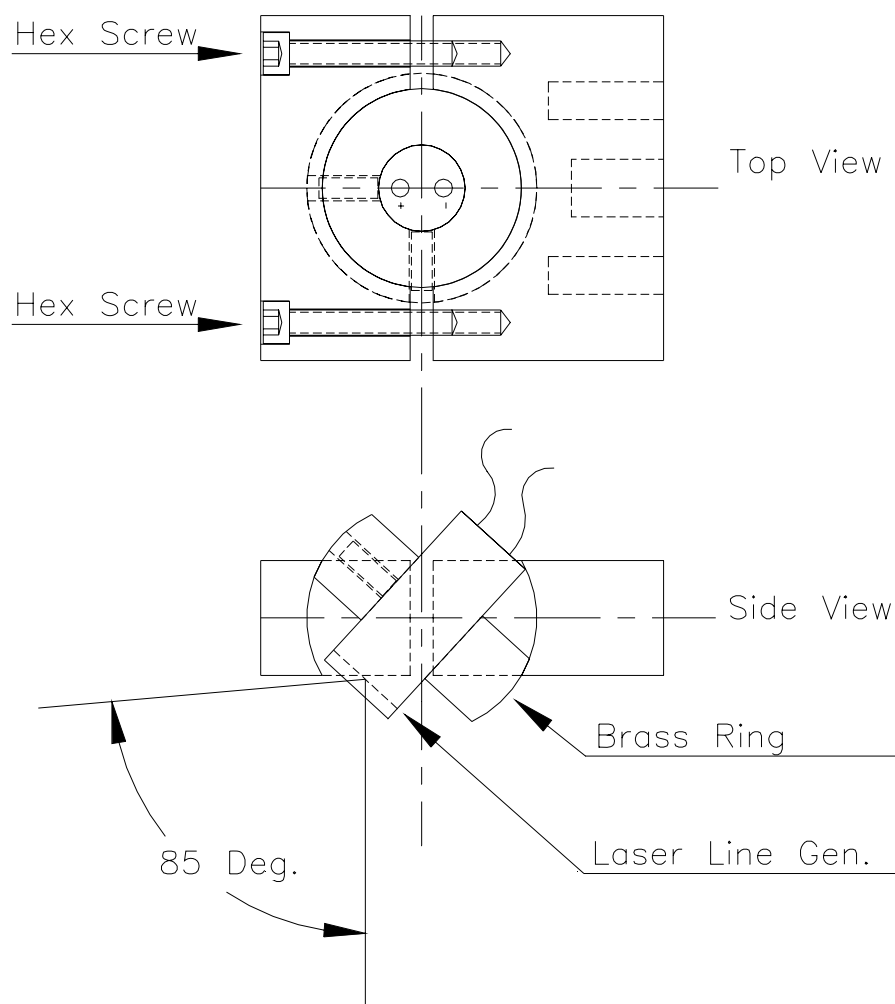

Figure 6-15. Adjustment of Laser Locator
2. Reaching through the door, use a 3/32" hex wrench and loosen the two hex screws, shown in Figure 6-15, sufficient to be able to tilt and turn the Brass Ring/Laser Line Generator assembly.